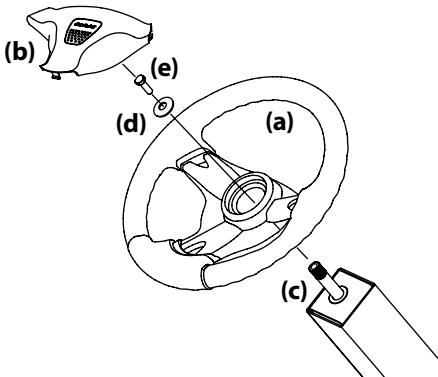

Figure 2-7
- Remove the hardware for attaching the steering wheel (a) from beneath the steering wheel cover (b). Carefully pry off the steering wheel cover (b) to remove the hardware. See Figure 2-7.
- With the wheels of the tractor pointing straight forward, place the steering wheel (a) over the steering shaft (c). See Figure 2-7.
- Place the belleville washer (d) over the steering wheel (a) and secure with the hex screw (e). See Figure 2-7.
- Place the steering wheel cover (b) over the center of the steering wheel (a) and push downward until it "clicks" into place. See Figure 2-7.